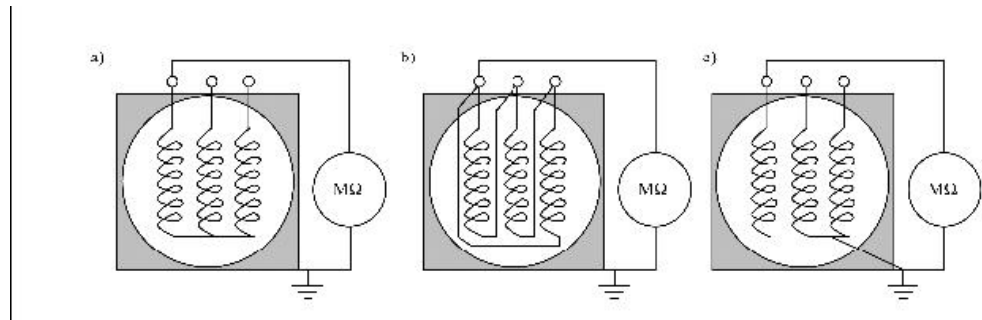

Figure 7-4. Connection of the stator windings for insulation resistance measurements.
- The secondary connections of the current transformers (CT's), including spare cores are not open, see *Figure 7-4. Connection of the stator windings for insulation resistance measurements, part a*.
The insulation resistance measuring should be carried out in the terminal box. The test is usually performed to the whole winding as a group, in which case the meter is connected between the frame of the machine and the winding, see *part a* and *part b* of *Figure 7-4. Connection of the stator windings for insulation resistance measurements*. The frame is earthed and the three phases of the stator winding remain connected at the neutral point, see *part A* of *Figure 7-4. Connection of the stator windings for insulation resistance measurements*. In the figure MΩ represents the insulation resistance tester.
If the measured insulation resistance of the whole winding is lower than specified, and the phase windings can easily be disconnected from each other, each phase can also be measured separately. This is not possible in all the machines. In this measurement, the tester is connected between the frame of the machine and one of the windings. The frame and the two phases not measured are earthed, see *part c* of *Figure 7-4. Connection of the stator windings for insulation resistance measurements*. In the figure MΩ represents the insulation resistance tester.
In Figure 7-4: